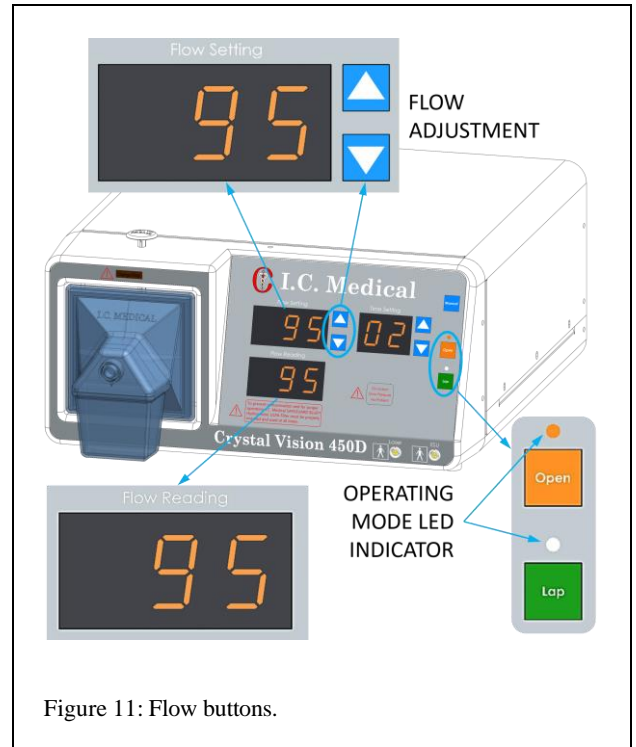

Figure 11: Flow buttons.
6. The FLOW SETTING buttons (Up and Down arrows), (Figure 11), adjusts the desired Flow level on the Flow Setting display. The Flow Reading digital meter indicates the actual Flow through the unit. Some RF noise may cause the Flow Set and Flow Reading to flicker; however, it will not affect the actual flow or the functionality of the CRYSTAL VISION®.